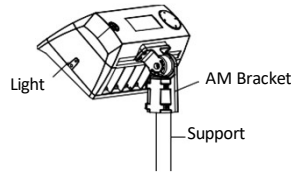

Figure 14
2. Place the bracket onto the pole and secure the 4 locking bolts. **See Figure 14.**